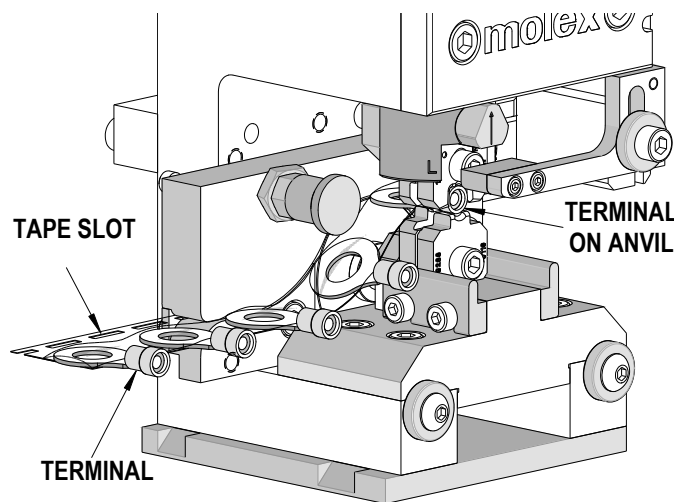

Figure 2-15
5. Load the taped terminal strip from the front of the module, engaging the slots in the tape with the teeth on the feed wheel. Make sure the terminal is also centered above the crimp anvils. See Figure 2-15.